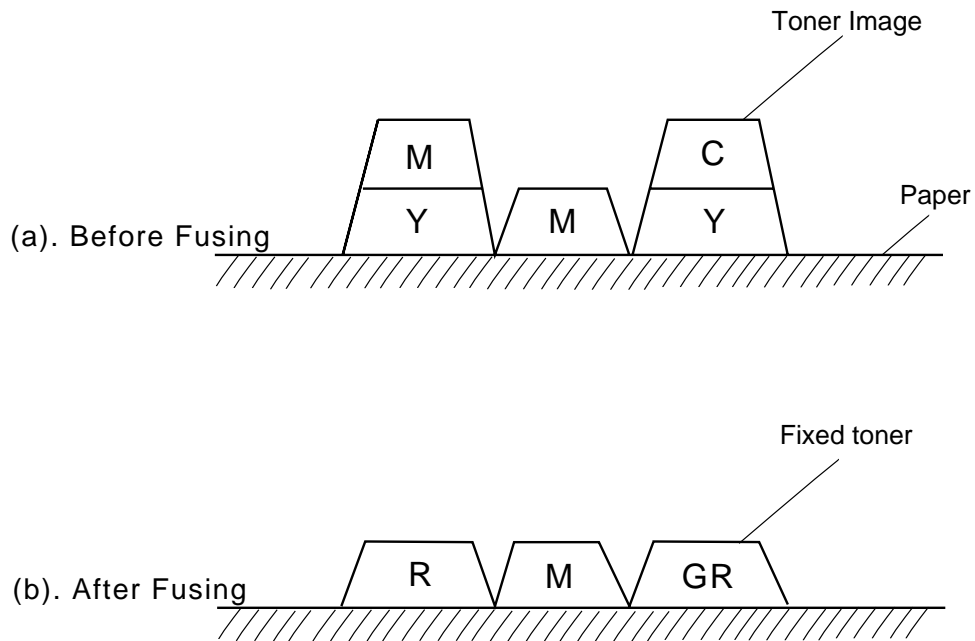

Fig.4-27
(2) Fusing Process (Refer to Fig.4-27.)
- ① Silicone oil supplied from the oil bottle is applied to the surface of fuser roller.
- ② The toner image has been transferred onto the paper, but not yet fused.
- ③ Transported paper passes between the heater roller and back-up roller.
- ④ Each roller is heated up to approx.140°C, and receives approximately 156N pressure from the opposite heat roller.
- ⑤ When the paper carrying the toner images passes between the two heat rollers, the toner images are melted and fused on the transported paper.
- ⑥ The paper carrying the fused image is separated from the heat rollers, and ejected from the printer.